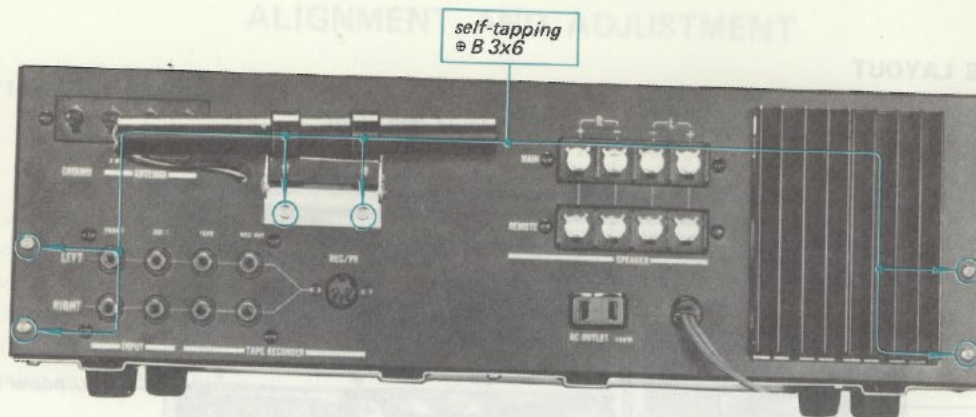

Fig. 2-16. Rear panel removal
4. Remove the six self-tapping screws (\oplus B 3x6), two of them secure the bar antenna holder to the chassis along with rear panel and others secure the rear panel to the chassis as shown in Fig. 2-16. This frees the rear panel.